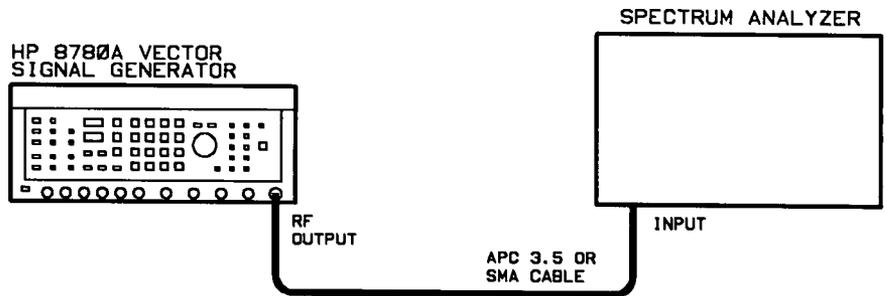

Figure 4-5. Spurious Response Test Setup
1. Connect the equipment as shown in figure 4-5.